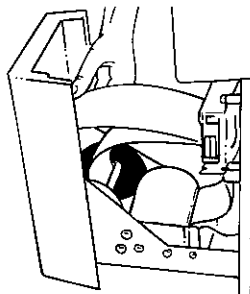

Figure 3.30 Feeding the white paper through the slot in the printer drawer.
9. Feed the white printer paper through the slot in the printer drawer and close the drawer (Fig. 3.30).